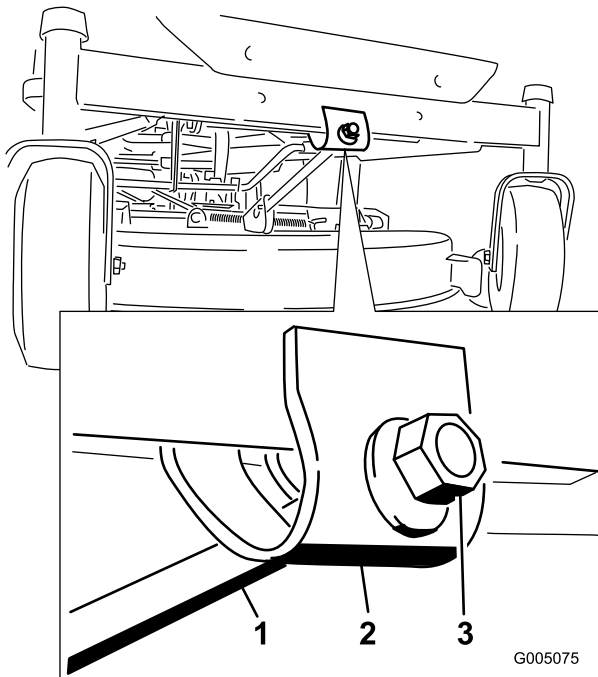

Figure 53
7. To adjust the front-to-rear blade slope, rotate the adjustment nut in the front of the cutter deck (Figure 53).